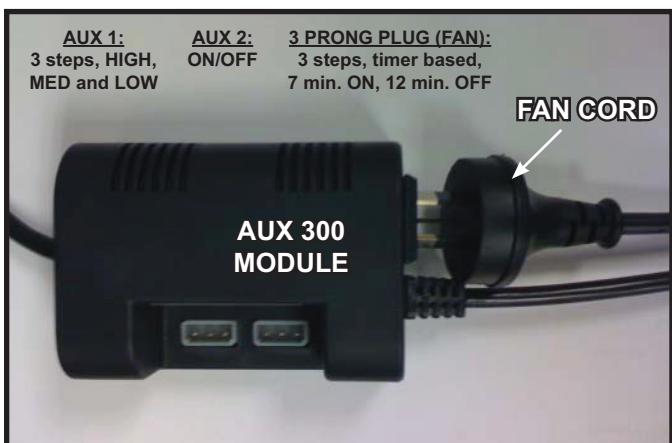

Figure 12.10 Plug Fan into AUX300CE Module
- Insert the 3 prong plug from the fan into the receptacle located in the AUX300CE module. See Figure 12.10.